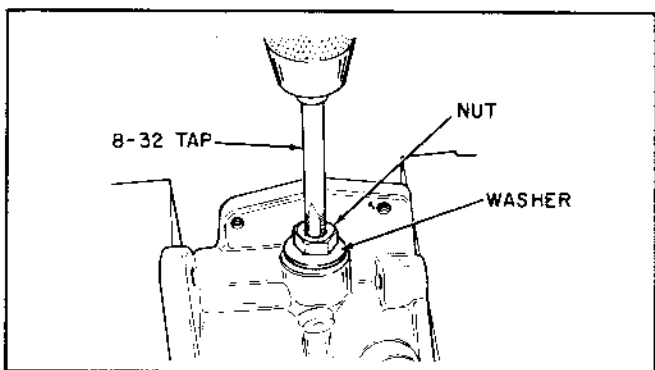

Figure 7-14. Removal of Inside Valve
- b. Turn a nut onto an 8-32 tap and slide on a washer. (Fig. 7-14).
- c. Turn the tap, with nut and washer on tap (Fig. 7-14), into valve body until the tap begins to protrude through the valve body when viewed through the inlet needle and seat opening.